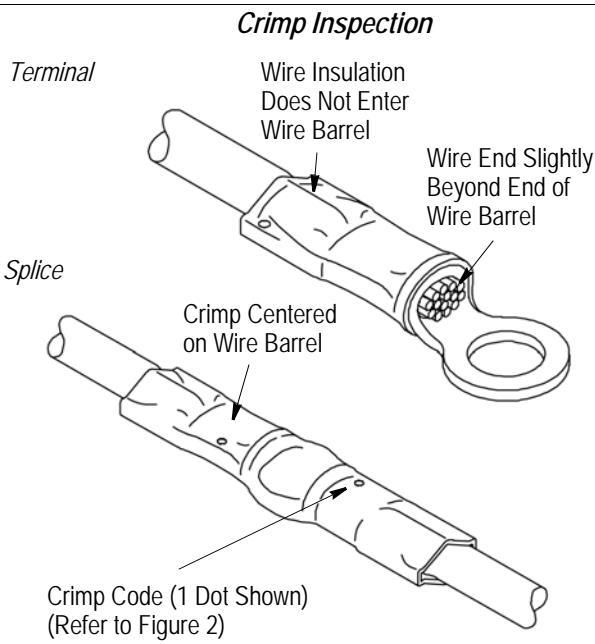

Figure 4
- Check that the crimp is centered on the wire barrel. See Figure 4.
- Make sure that the wire insulation does not enter the wire barrel. See Figure 4.
- Check that the wire end is flush with or slightly beyond the end of the wire barrel. See Figure 4.